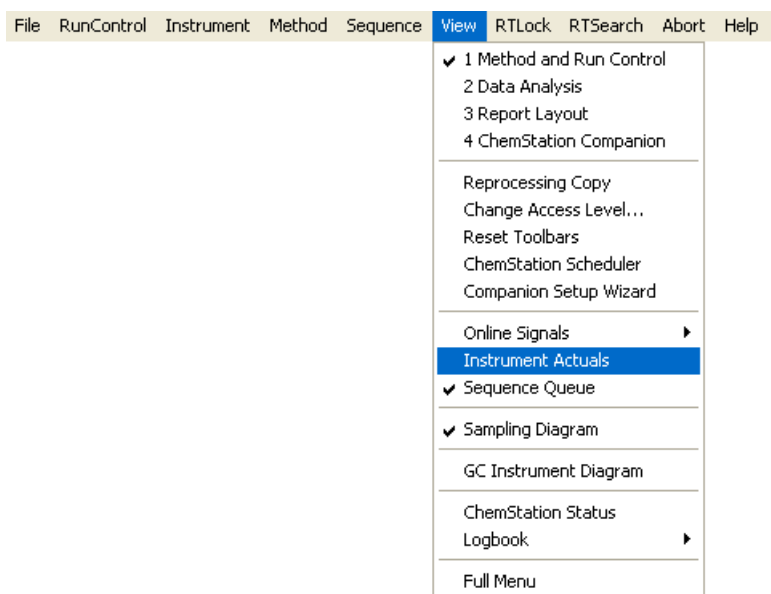

**Figure 24** Accessing Instrument Actuals
- 1 To view **Instrument Actuals** for the GC and HS, select **View > Instrument Actuals** from the data system top menu (Figure 24).